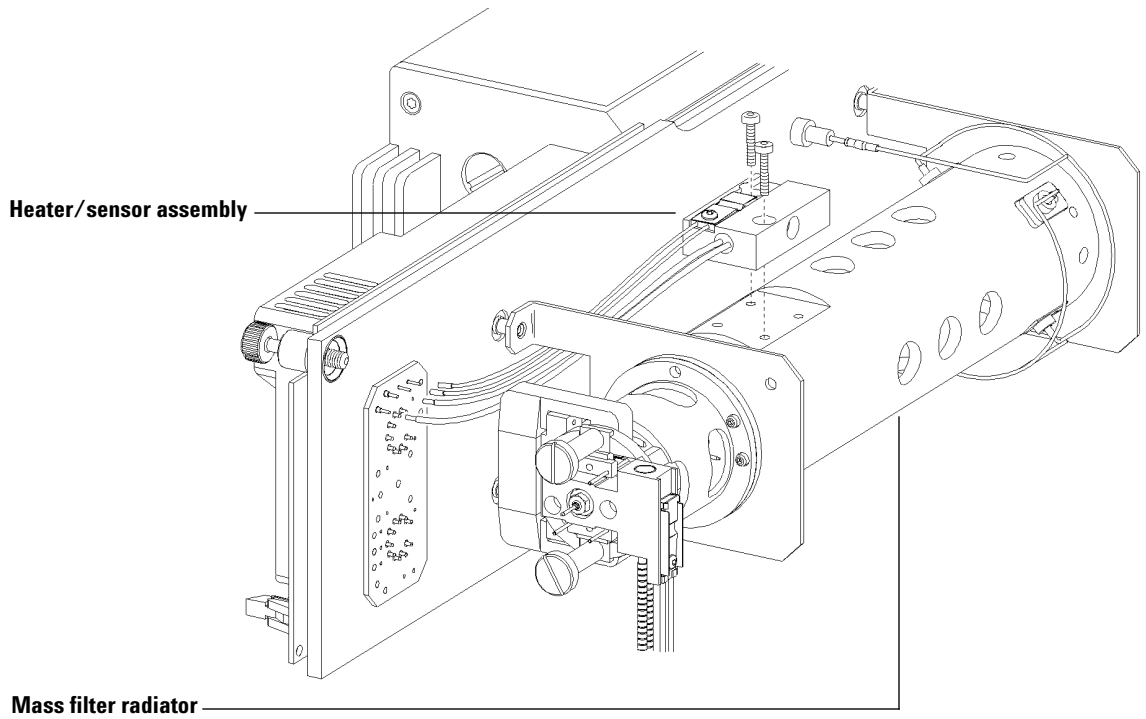

Figure 25 Mass filter heater and sensor
- 1** Unpack the new mass filter heater assembly (Figure 25). The heater, temperature sensor, and heater block are already assembled.